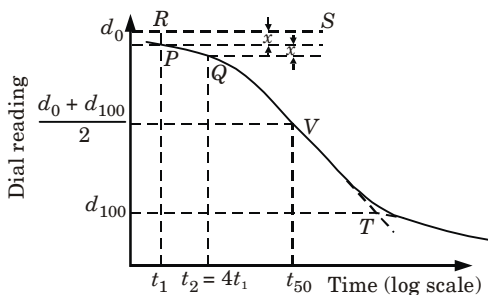

Fig. 3.16.1. Logarithm-of-time method for determination of C_v .
1. Plot the dial readings for sample deformation for a given load increment against time on semi log graph paper as shown in Fig. 3.16.1.